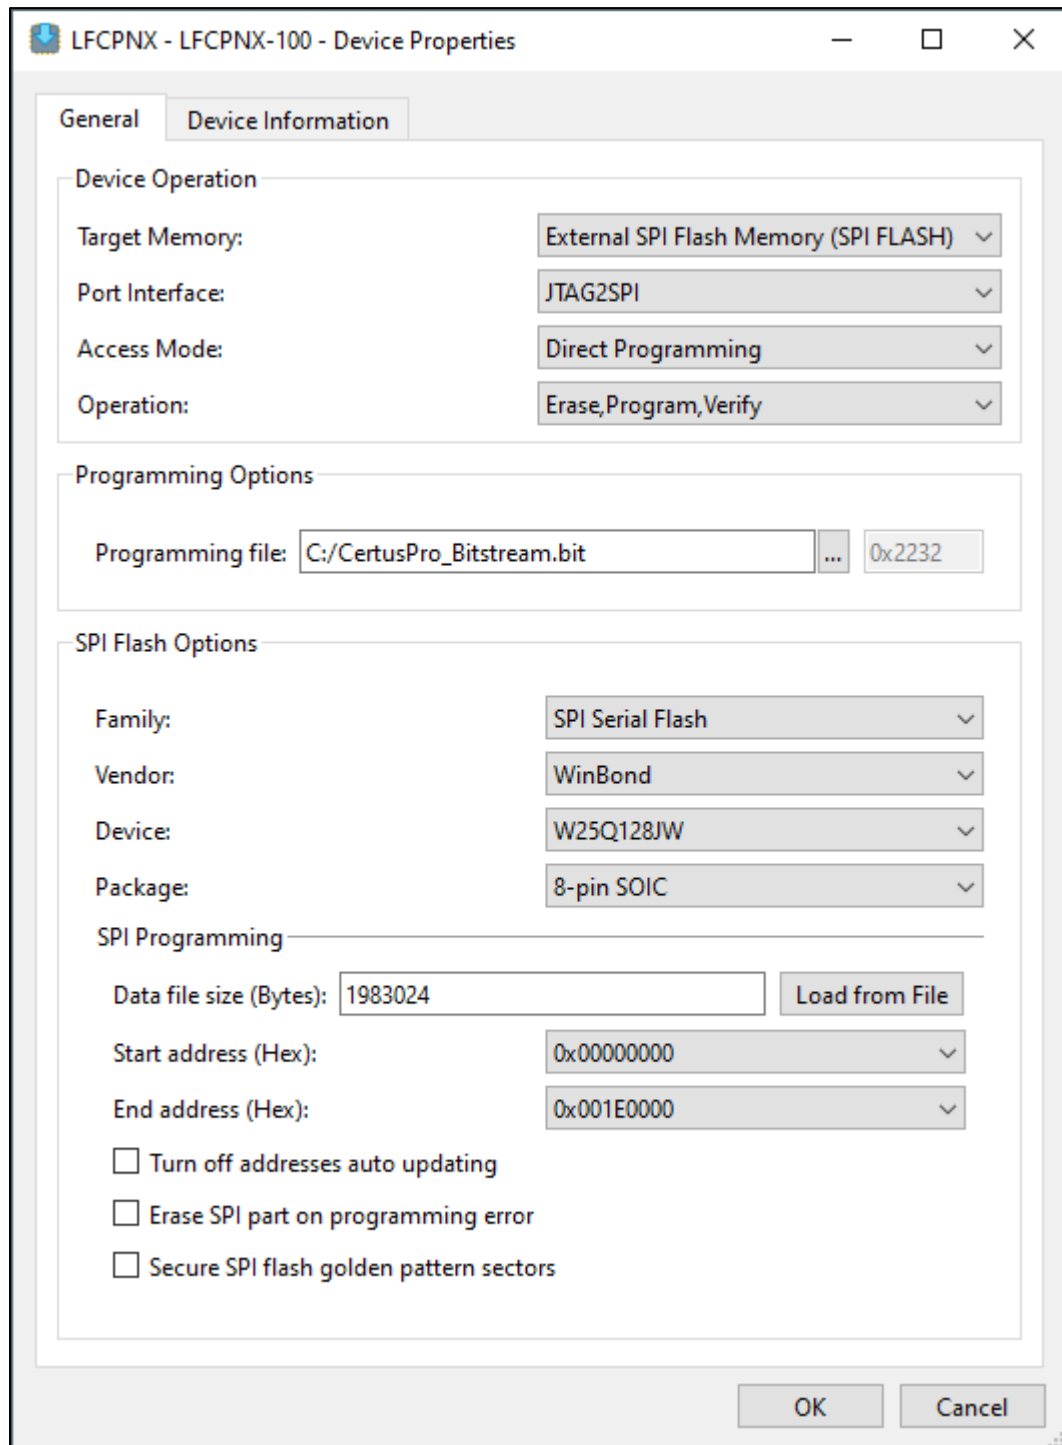
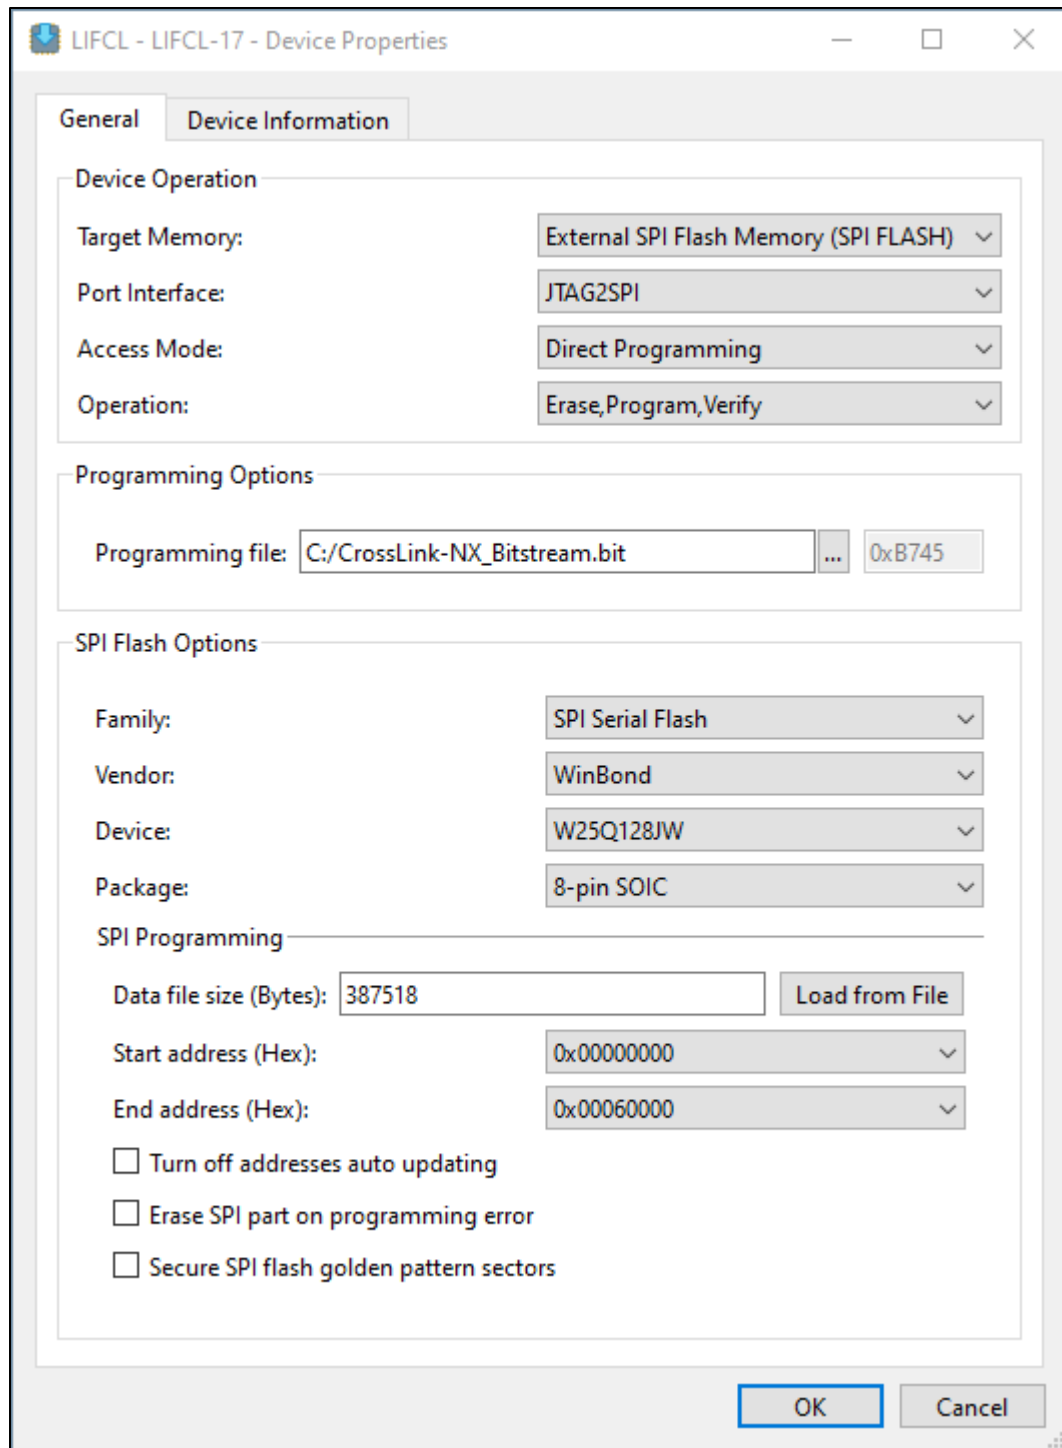

Figure 3.10. External SPI Flash Memory (SPI Flash) Device Properties Window – CertusPro-NX
Figure 3.11. External SPI Flash Memory (SPI Flash) Device Properties Window – CertusPro-NX
3. Double-click on the **Operation** field and select the appropriate programming mode. In this example, **Erase, Program, Verify** of **External SPI Flash Memory (SPI Flash)** is selected (Figure 3.10 and Figure 3.11).